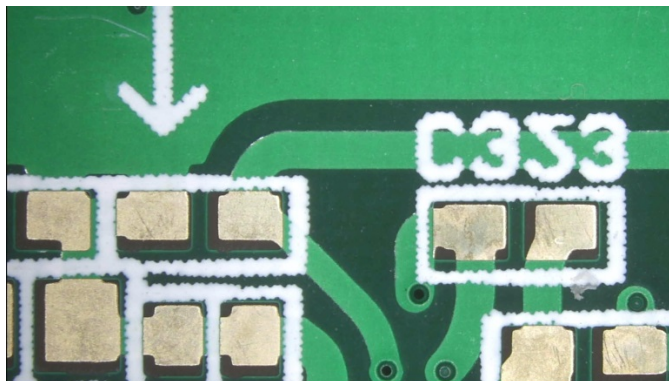
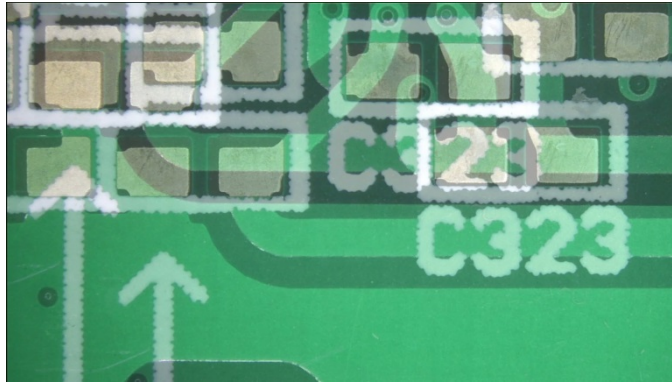

Figure 5-51 Example of not enabling comparison mode
Figure 5-52 Example of Overlay Function enabled
(1) Comparison mode:
- Overlay : Turn on or off the comparison function. After turning it on, the default file for comparison is the last picture taken (the same method is used for other comparison modes). Figure 5-51 shows that the comparison mode is not turned on, and Figure 5-52 shows that it is turned on. Overlay function